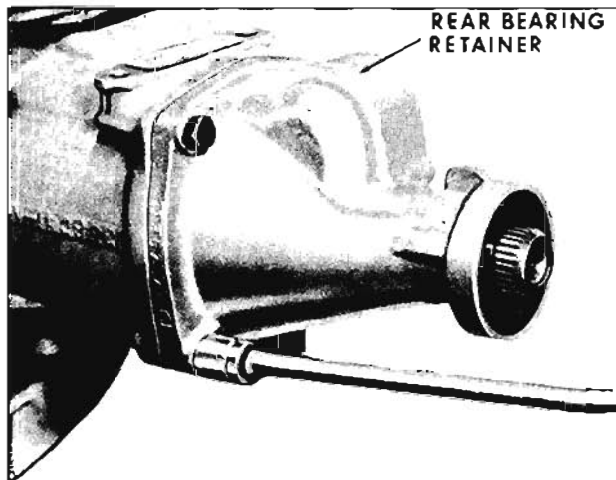

Fig. 6-279 Removing Rear Bearing Retainer
1. Remove four rear bearing retainer bolts with a 9/16" socket. Remove rear bearing retainer from case. (Fig. 6-279)